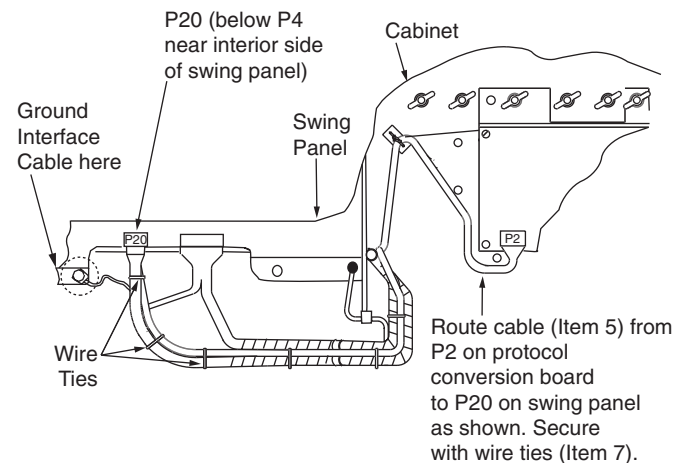

Figure 6.
- B. Connect the cable end with ground wire to P20, located on the lowest board attached to the swing panel (Figure 6).
- C. Route the cable as shown in Figure 6 with the provided wire ties (Item 7) to secure it to existing cabling.
- D. Connect the ground wire to swing panel (Figure 6).